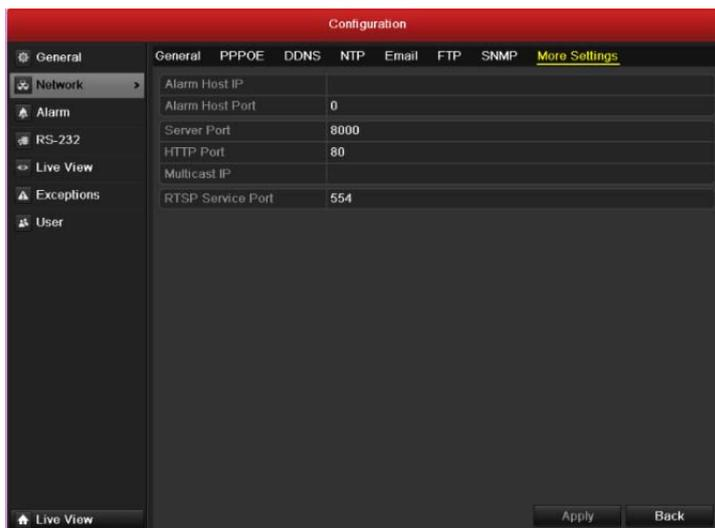

Figure 9.14 More Settings Interface
2. Select the **More Settings** tab to enter the More Settings interface, as shown in Figure 9.14.
2. Select the **More Settings** tab to enter the More Settings menu, as shown in Figure 9.14.